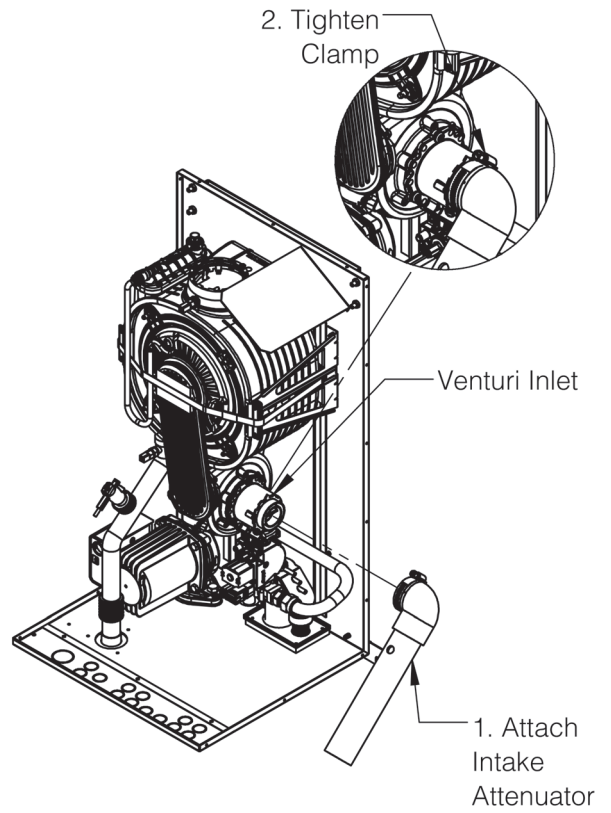

Figure 2
- A. Check if *Intake Attenuator* (P/N: 108455-01 for boiler sizes 80-100 and 150-180, or P/N: 108456-01 for boiler sizes 120-135) is properly installed on venturi gas inlet inside boiler jacket. If not present or improperly installed, correct/install *Intake Attenuator* (see Figure 2).